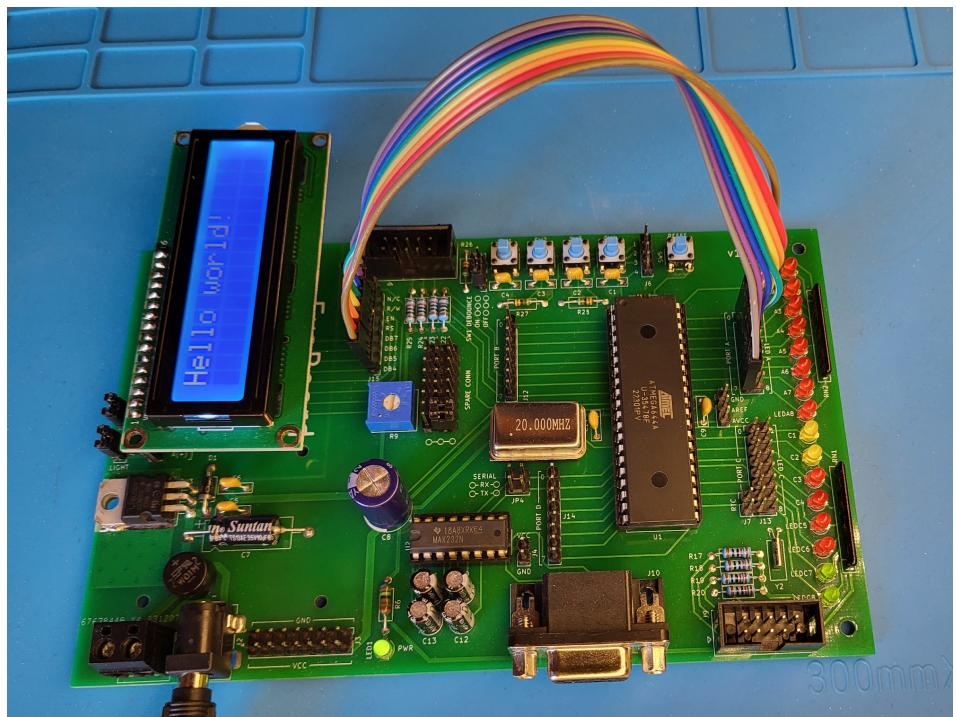

Figure 52: Wiring for the LCD example
**Preparation** Connect the LCD (J15) to Port A (J11). Table 1 lists the individual connection that need to be made. Figure 52 shows the setup.